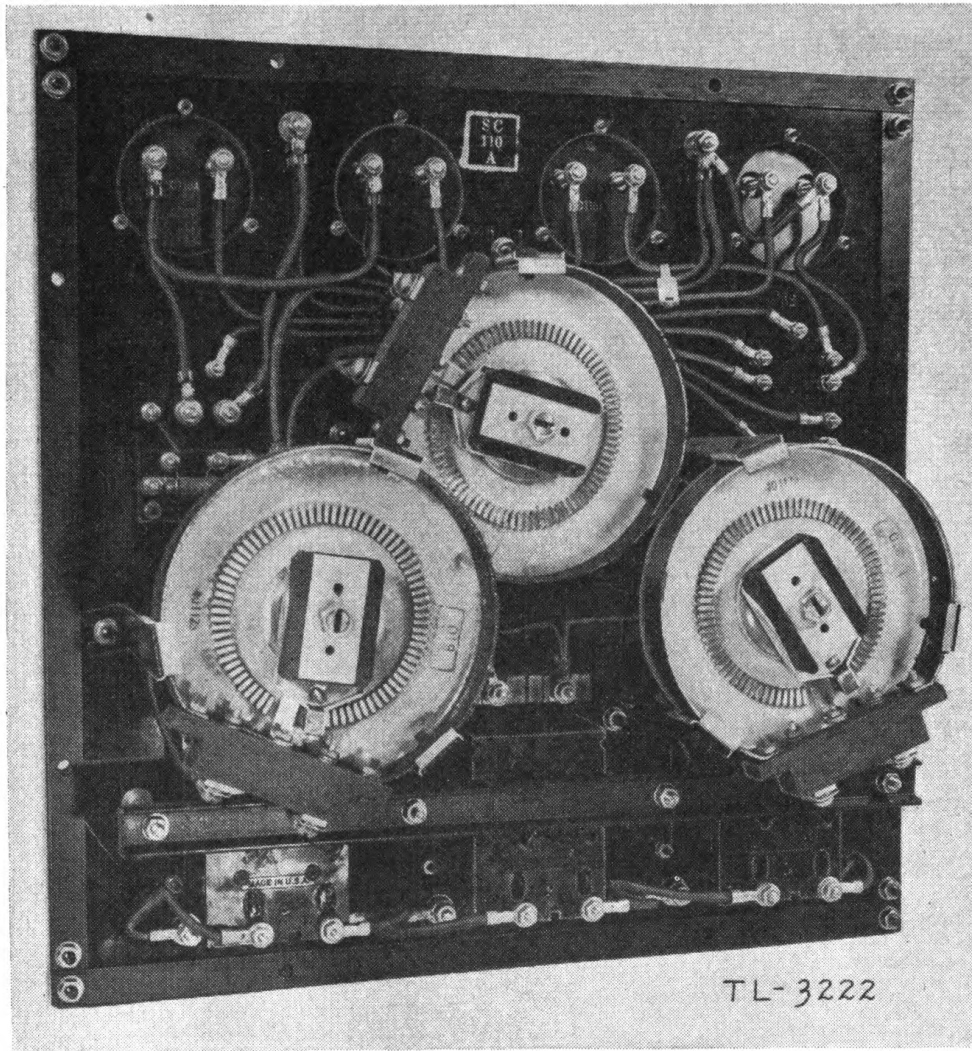

FIGURE 13.—Panel BD-LO-61—rear panel view.
(2) *Panels BD-LM-61, BD-LN-61, BD-LO-61, and BD-LP-61.*—The insulated panel board is made of $\frac{1}{2}$ -inch black phenolic plate, fastened to the steel case (figs. 8 and 12). A voltmeter IF-47, 0-50 volts, direct current; three ammeters IF-17, 0-15 amperes, direct current, marked "1," "2," and "3"; an inclosed magnetic contactor switch; an inclosed reverse current relay (automatic switch); three rheostat control handles marked "1," "2," and "3"; and three inclosed 10-ampere double-pole single-throw circuit-breakers marked "BAT 1," "BAT 2," and "BAT 3" are mounted on the face of the panel. Three rheostats of 12.5 ohms each are mounted on the back of the panel (fig. 13). The ammeter, rheostat, and circuit-breaker in